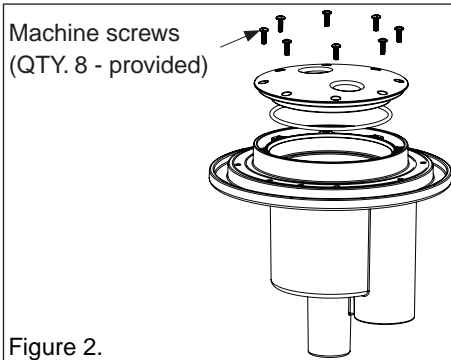

Figure 2.
1. Install the O-ring on the gunitite cover and install the gunitite cover over the top of the niche using the supplied machine screws, see Figure 2. This will protect the light cavity of the niche during installation. Secure the gunitite cover with the eight (8) 8-32 x 1/2" machine screws (provided), see Figure 2. Using a No. 2 Philips head screwdriver, tighten each retaining screw to a torque value of 10.00 (minimum) to 15.0 (maximum) in-lbs to secure the gunitite cover on the niche. **DO NOT OVER TIGHTEN THE SCREWS. DO NOT ASSEMBLE WITH POWER TOOLS.** Over tightening or using a motorized screwdriver on the gunitite cover screws can over torque the screw threads and damage the niche housing and/or gunitite cover.
1. Install the O-ring on the gunite cover and install the gunite cover over the top of the niche using the supplied machine screws. This will protect the light cavity of the niche during installation. Secure the gunite cover with the eight (8) 8-32 x 1/2" machine screws (provided), see Figure 2 on page 6. Using a No. 2 Philips head screwdriver, tighten each retaining screw to a torque value of 10.00 (minimum) to 15.0 (maximum) in-lbs to secure the gunite cover on the niche. **DO NOT OVER TIGHTEN THE SCREWS. DO NOT ASSEMBLE WITH POWER TOOLS.** Over tightening or using a motorized screwdriver on the gunite cover can over torque the screw threads and damage the niche housing and/or gunite cover.